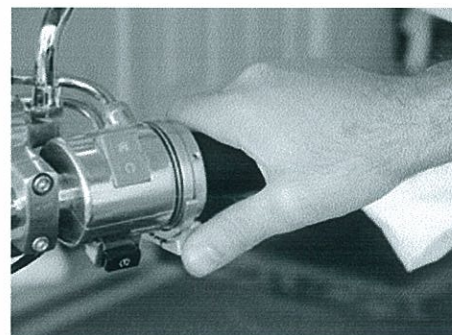

Figure 19
- 3.8 Turn the throttle and engage the cruise control by pushing forward on the Engage Button(20) (**Figure 19**) The hole in the Spring Plate(13) should easily snap to full engagement with the Catch Pin(14). Be careful not to touch the Manual Release Lever(19) while engaging the cruise control.